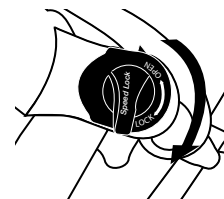

Figure 20.
- To lock a suspension fork, turn the locking lever in the direction indicated by the arrow with the description "lock" or "firm" until it stops. (See the example on *Figure 20*).